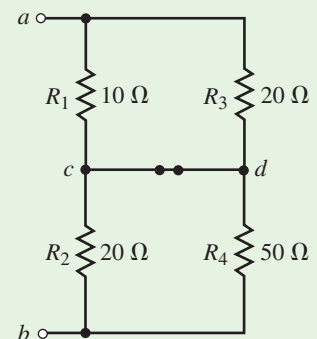

FIGURE 9-22
Step 3: Setting the voltage source to zero by replacing it with a short, we obtain the circuit shown in Figure 9-22.